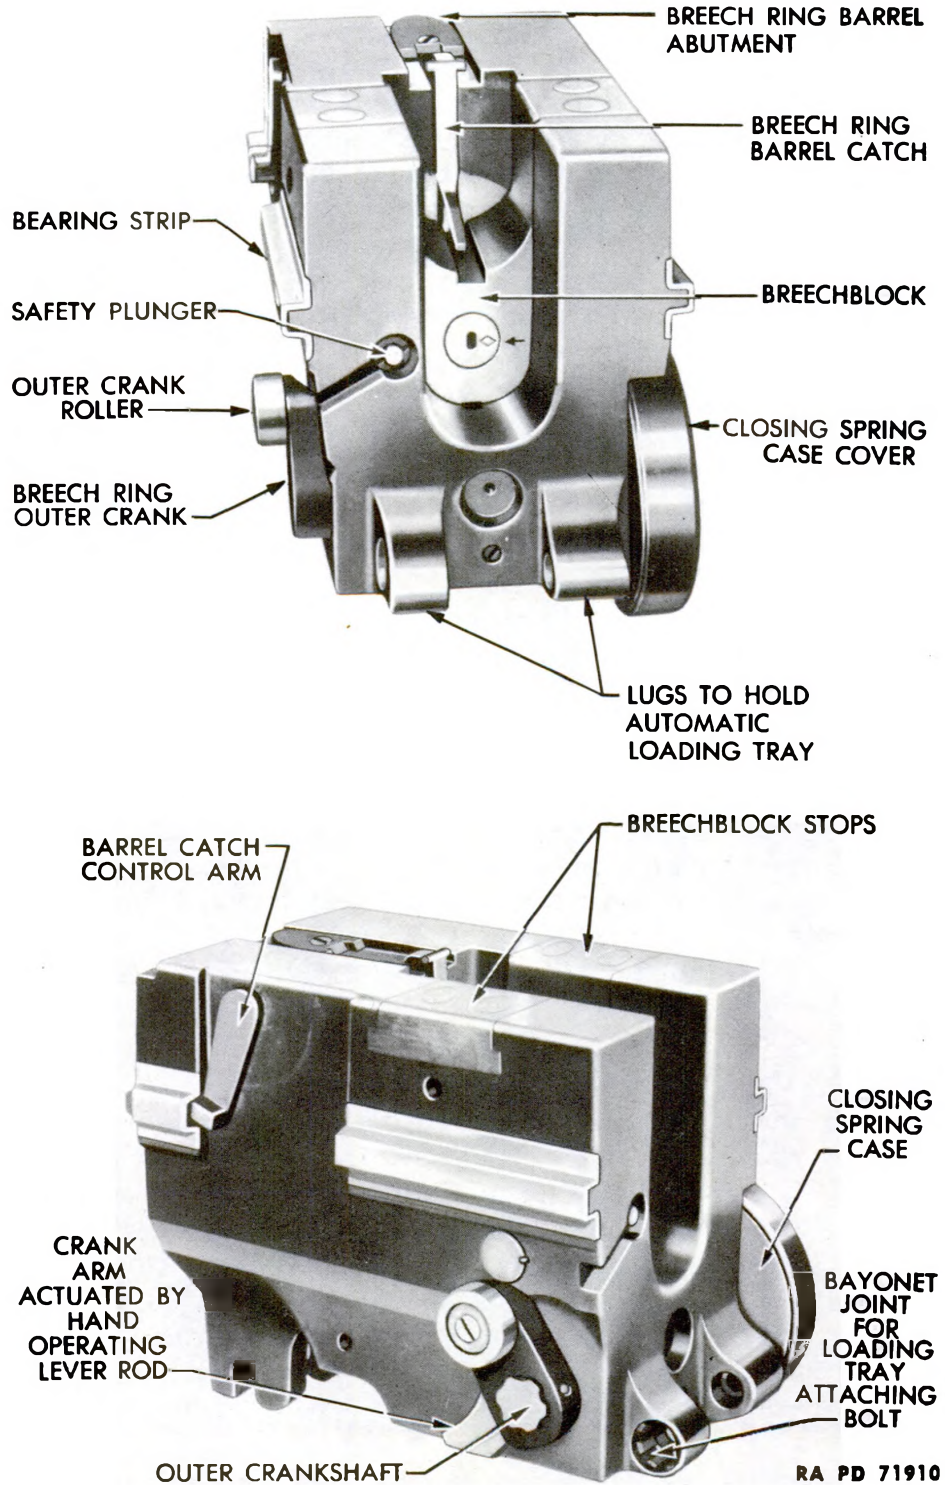

Figure 10 – Breech Ring Assembly
a. The breech ring assembly (fig. 10) includes: the breech ring; the breech ring barrel catch which locks barrel assembly to the breech ring; the breechblock with its assembled percussion mechanism parts; the breech ring outer crank assembly which moves the breechblock up and down to open and close the breech; the closing spring assembly which supplies energy to raise the breechblock; the extractor assembly which ejects the empty cartridge cases from the breech and also holds the breech in open position; and the safety plunger which prevents the gun from being fired when the barrel assembly is removed.
b. **Breech Ring.** The breech ring (fig. 10) is roughly rectangular in shape. It is threaded internally at the front to receive the tube.
**40-MM AUTOMATIC GUN M1 (AA) AND 40-MM ANTI-AIRCRAFT
(1) The rear end of the breech ring safety plunger protrudes from a depression in the left side of the rear of the breech ring (figs. 10 and 18). This device prevents the gun from being fired when the tube is out of its proper position or removed. The safety plunger assembly consists of the safety plunger, compression spring, and safety plunger spring seat.